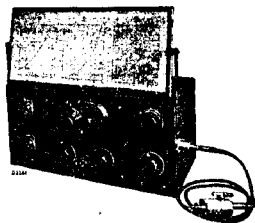

Fig. 1
1. Service Oscillator G.M. 2880 (fig. 1).